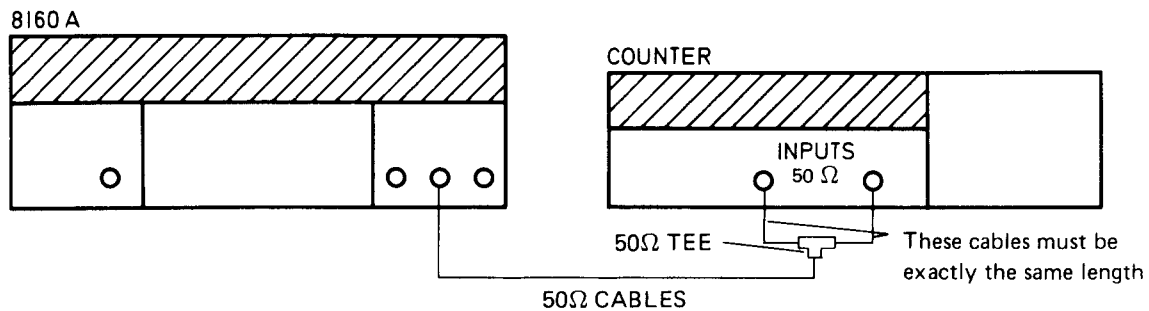

Figure 4–13. Width Test Set-up – High Ranges
1. Connect the equipment as shown in figure 4–13.